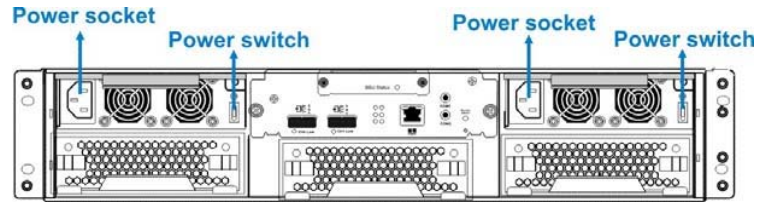

Figure 5-9: Locations of Power Sockets and Power Switches
Step 1. Turn off the PSU. The power switch is located on each PSU's rear-facing panel. (See **Figure 5-9**)